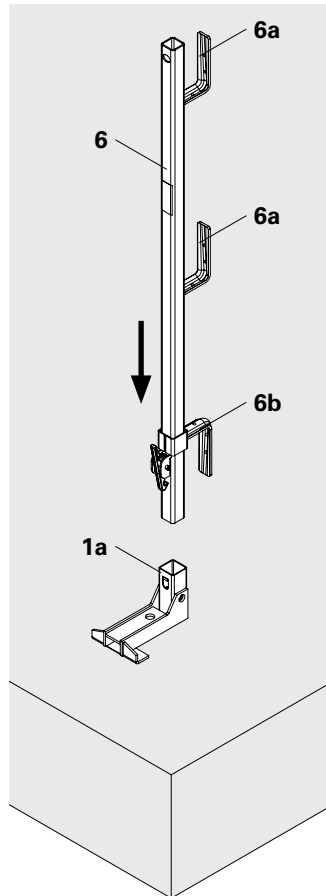
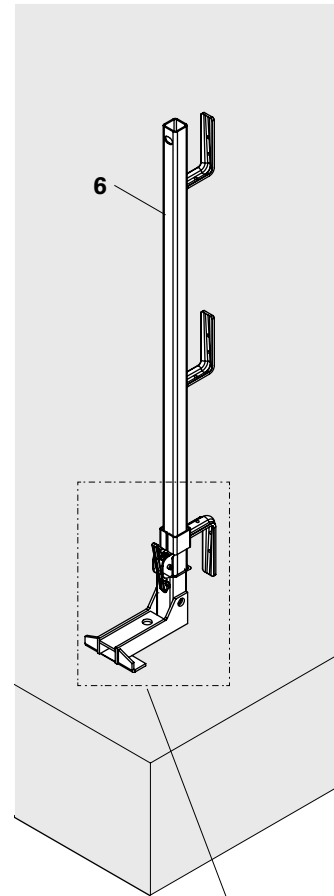

Fig. A3.01
Fig. A3.02
Insert the post (6) in the rectangular tube (1a) of the post connection, e.g. the slab foot. (Fig. A3.01 + Fig. A3.02)